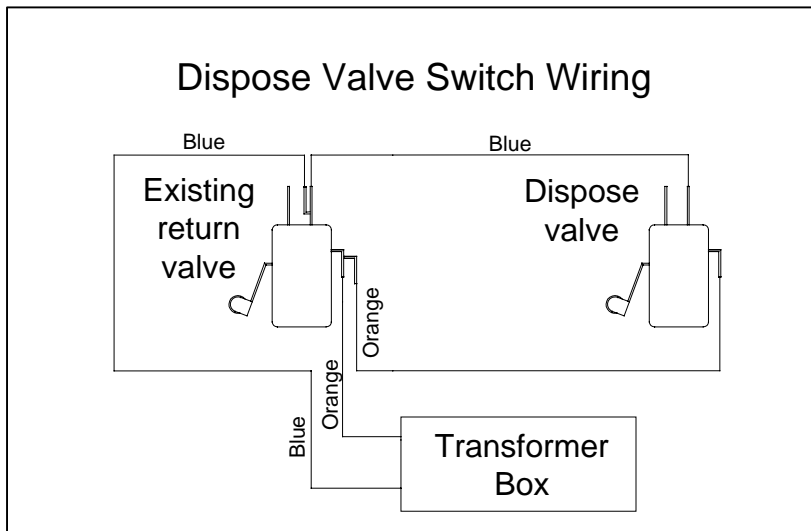

Figure 8: Dispose Valve Wiring
17. Plug both ¼" pigtail ends of the new jumper wire harness (106-4182) to the far left oil return switch terminals. See Figure 8 on the following page.